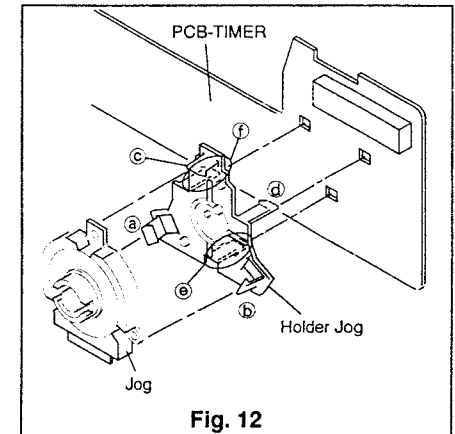

Fig. 12
- ④ Remove three catches (a), (b) and (c), shown in Fig. 12 to remove the Jog.
- ⑤ Remove three catches (d), (e) and (f), and remove the Holder Jog shown in Fig. 12.